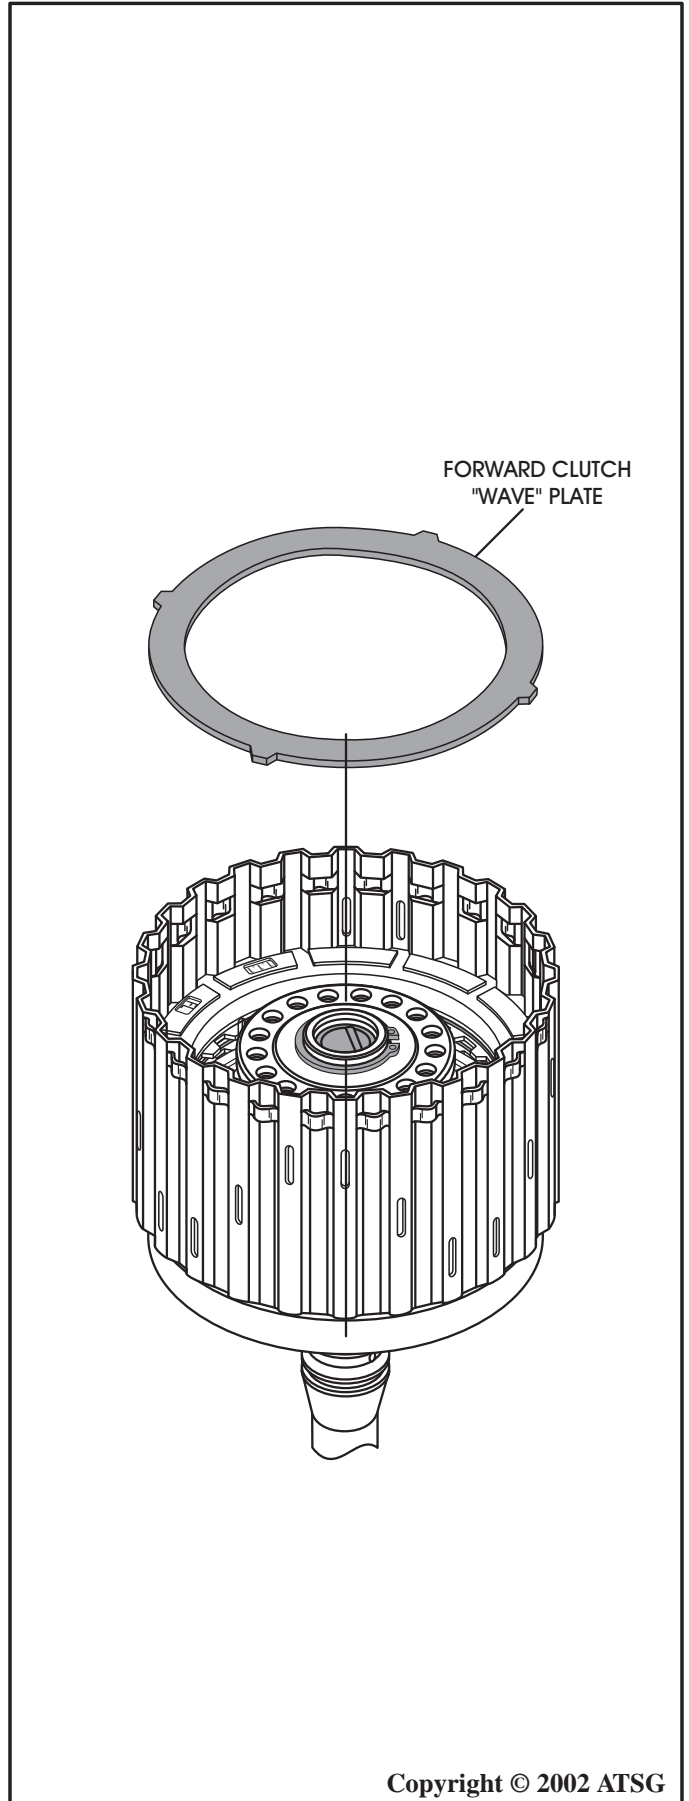

Figure 94
31. While holding it in position, turn the assembly over and place it back on the foot press as shown in Figure 94.
32. Install the forward clutch "Wave" plate on top of the coast clutch housing (See Figure 94).